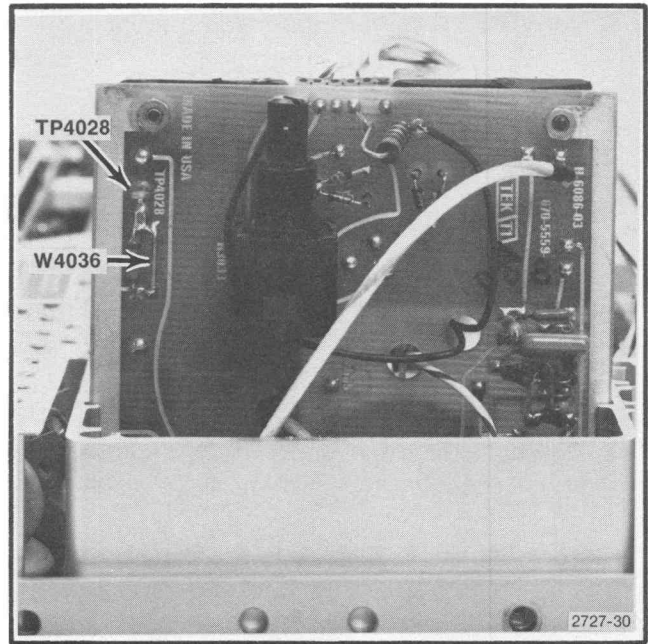

Fig. 3-24. Location of wire strap (W4036) on high voltage circuit board.
g. Lift one end of R4036 (wire strap) in HV Module (Fig. 3-24). Connect digital voltmeter (DVM) to TP4028 (Fig. 3-24). Set TIME/DIV to MNL and adjust MANUAL SCAN fully ccw.